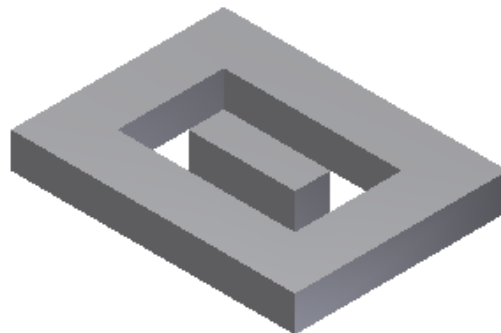

Figure 18-40 Assembly after applying the constraints
12. Close the **Place Constraint** dialog box. The assembly after applying the constraints is shown in Figure 18-40. Notice the change in the size of the Inner Plate.